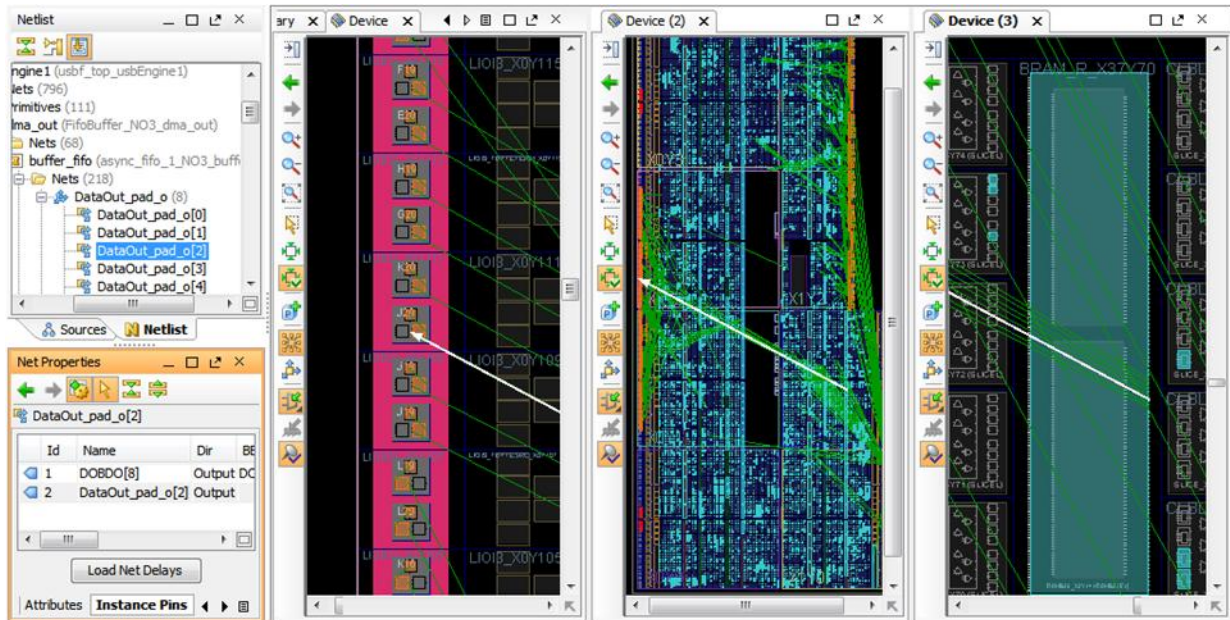

Figure 34: Device View with I/O Connectivity
3. Inspect the net name in the Netlist view, and examine the net properties in the Properties view, as shown in FIGURE 34.